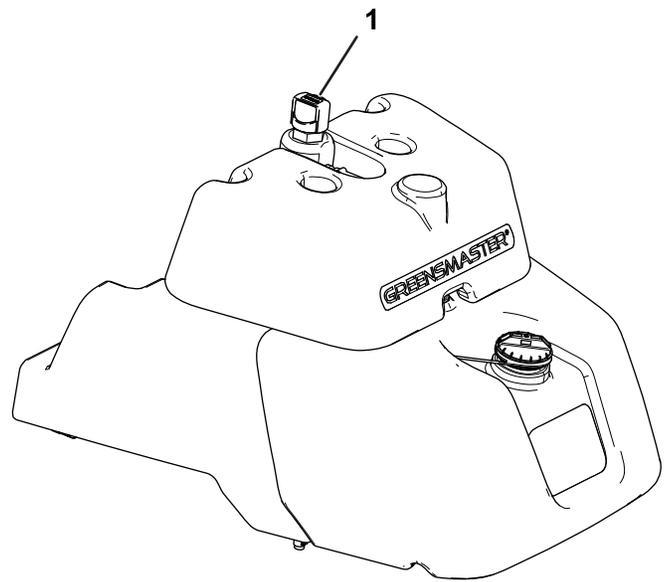

Figure 42
2. Locate the dipstick on the top of the main hydraulic tank (Figure 42) and proceed to step 3.